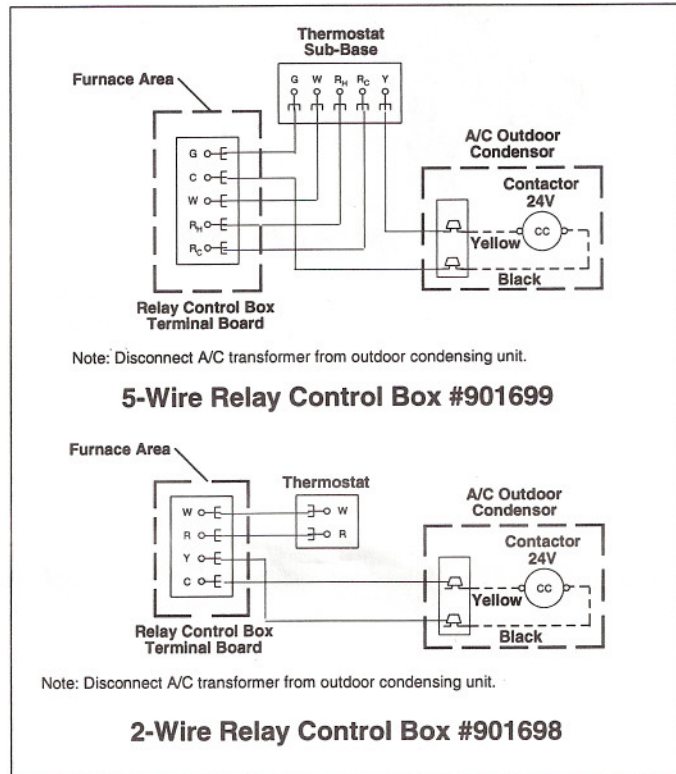

Figure 3. Wire Relays
- Bring in the low voltage field wires from the thermostat and air conditioning/heat pump unit and attach them to the low voltage field wiring terminal board located at the top of the relay control box. (See system wiring as shown in Figure 3.)